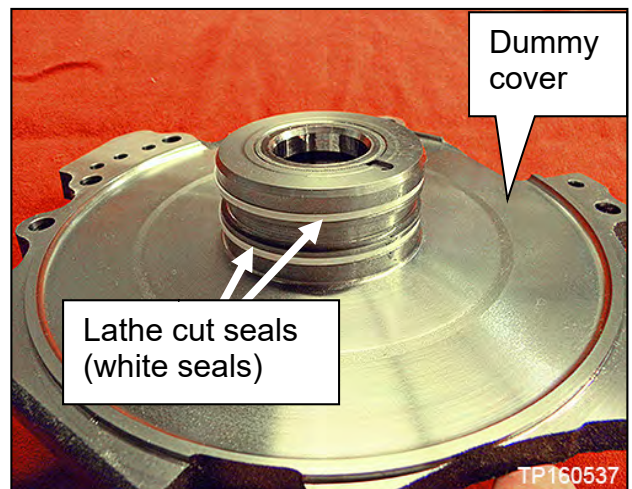

Figure 49
- Do **NOT** remove the lathe cut seals (white seals in Figure 49) from the dummy cover. These seals will be reused.